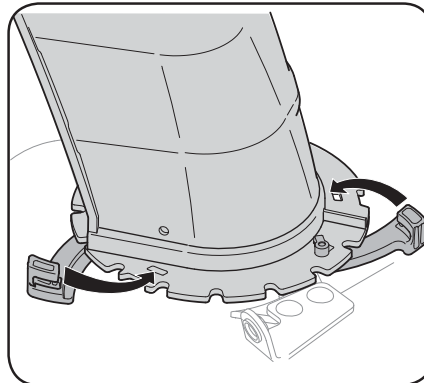

Figure 2-8
2. Close flange keepers to secure chute assembly to chute base. Flange keepers will click into place when properly secure. See Figure 2-8.